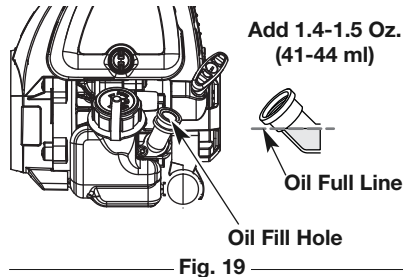
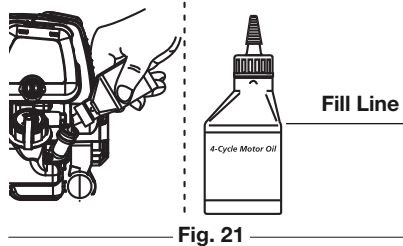

Fig. 19
Fig. 21
5. Check the oil level. Oil should be just to the bottom of the threads of the oil fill hole. (Fig. 19).
6. If the level is low, add a small amount of oil to the oil fill hole and recheck (Fig. 19). Repeat this procedure until the oil level reaches the the bottom of the threads in the oil fill hole.
NOTE: Use the bottle and spout saved from initial use to measure the correct amount of oil. The top of the label on the bottle measures approximately 3.04 ounces (90 ml) (Fig. 21). Check the level (Fig. 19). If the level is low, add a small amount of oil and recheck. Do not overfill.